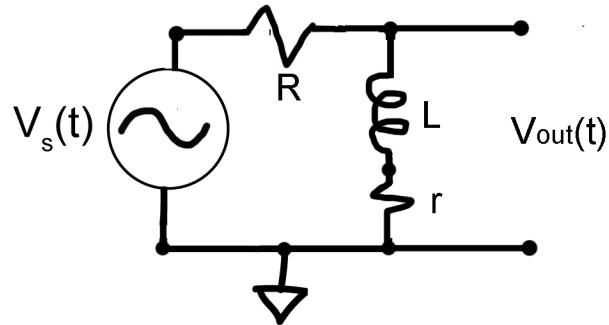

Figure 6.2.
**Q.3 Design a LR high-pass filter with  $f_{3\text{dB}} = 8.0 \text{ kHz}$  (Figure 6.2). Include a Screenshot from the oscilloscope of the rough performance that shows that the 3dB point is within design criteria. A nice way to accomplish this is with an image of the frequency sweep.**